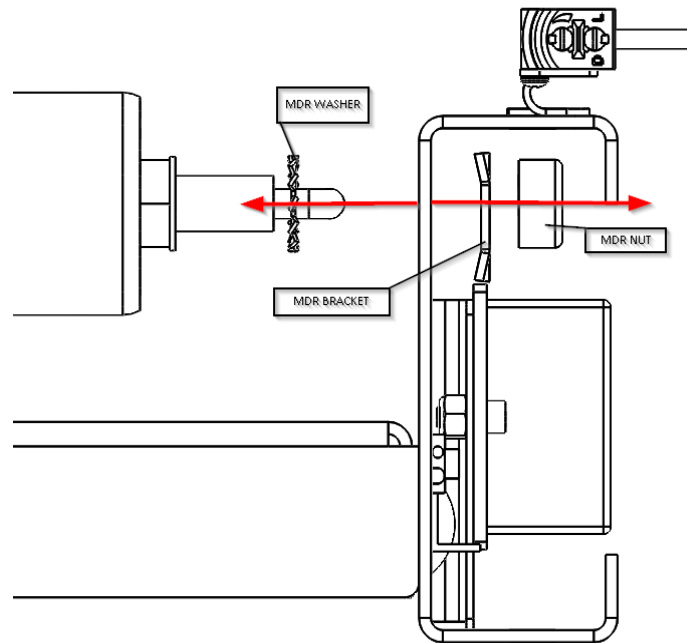

Figure 4: MDR Removal-1
4. Pull the MDR bracket away from the frame. Refer to Figure 4.